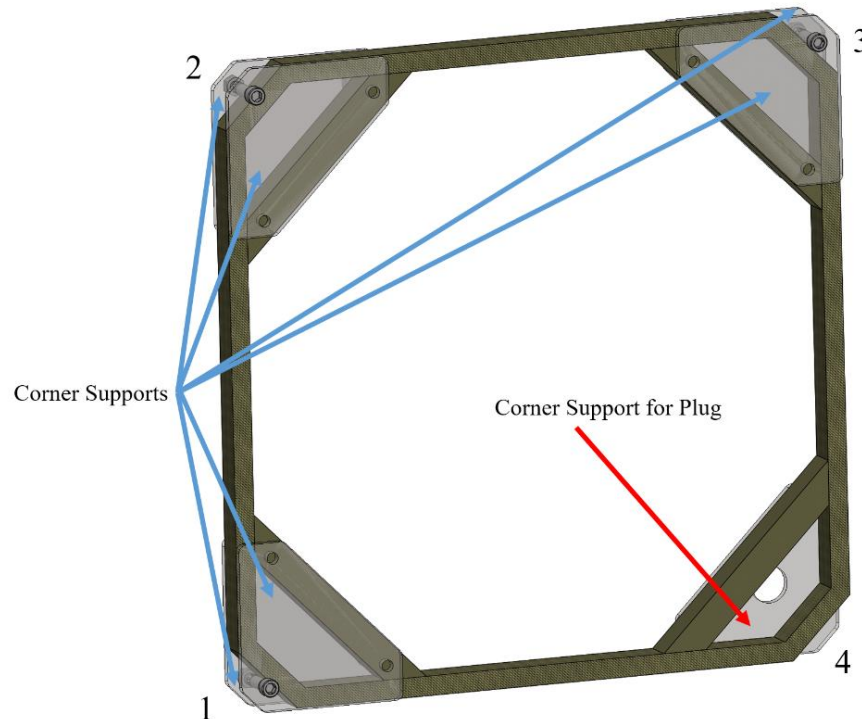

Figure 5.1
2. Epoxy the Corner Supports (PN THBC005) and the Corner Support for Plug (PN THBC006) to the Small Coil. Corners 1, 2, and 3 as shown in Figure 5.1 will each have two Corner Supports (THBC005) epoxied to them, while corner four will have the one Corner Support for Plug (THBC006) epoxied to it. One 2" 3/8"-16 bolt (PN OUTS002) and one 3/8"-16 nut (PN OUTS004) will be used to secure each outside corner of the two Corner Supports epoxied to each other for corners 1, 2, and 3. Corner 4 will only have the Corner Support for Plug epoxied to it as shown in Figure 5.1. Ensure that the Coil Support for Plug is epoxied to the back of the coil as it is shown in the configuration below, with the bolt heads being on the opposite side of the coil from the Corner Support for Plug. When the Corner Support for Plug is bolted in later in the process, the nuts should be resting on its surface.